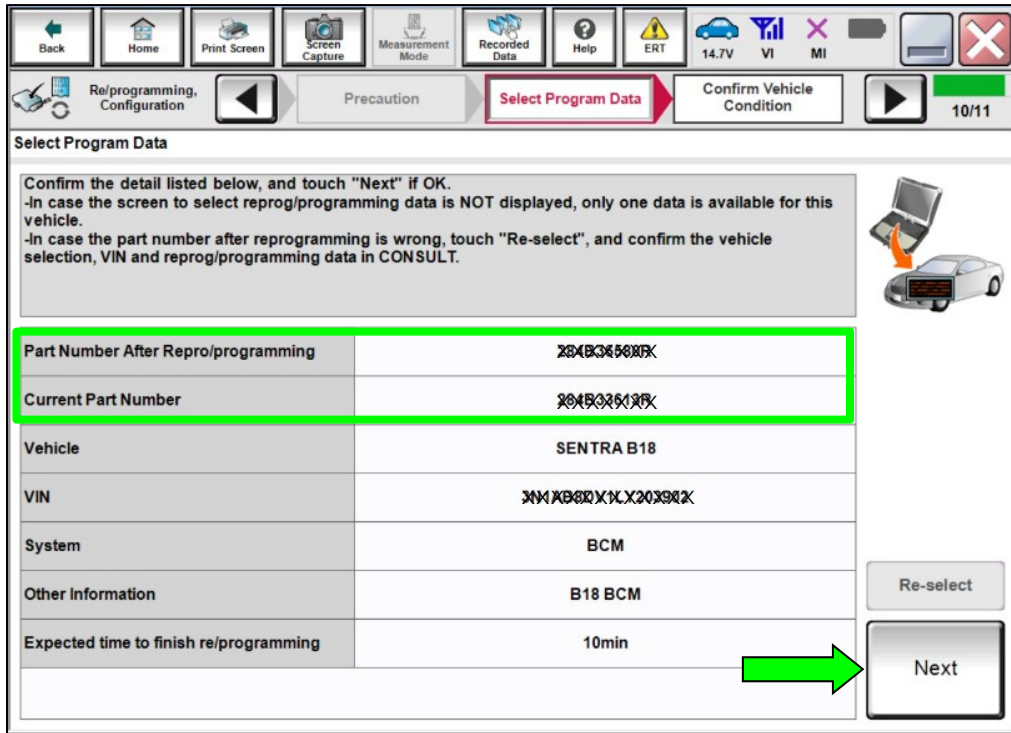

Figure 16
19. Read the **Current Part Number** and **Part Number After Repro/programming**. They should be different (Figure 16).